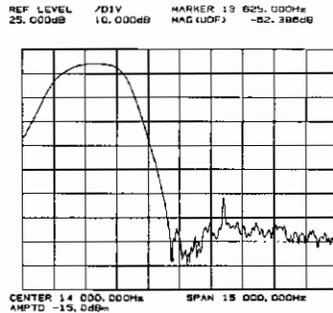

Figure 4-2: 14 kHz Filter Response
- m. The HP 3577A display should resemble the wave shape shown in Figure 4-2. The most critical part of this filter is that the 14 kHz response should be at least 70 dB below the response at 10 kHz.